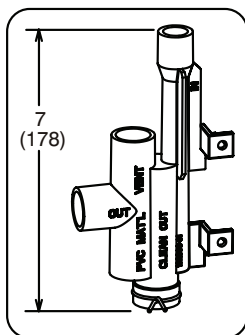

FIGURE 52
- 3 - Install the cap over the clean out opening at the base of the trap. Secure with clamp. See FIGURE 51 (3/4" drain connection) or FIGURE 52 (1/2" drain connection).
- 4 - Install drain trap using appropriate PVC fittings, glue all joints. Glue the provided drain trap as shown in FIGURE 51 or FIGURE 52. Route the condensate line to an open drain.